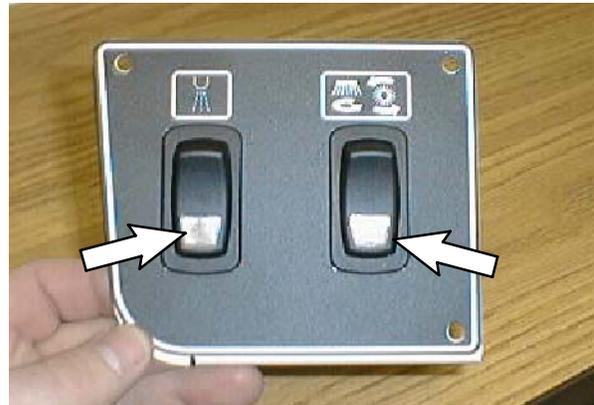
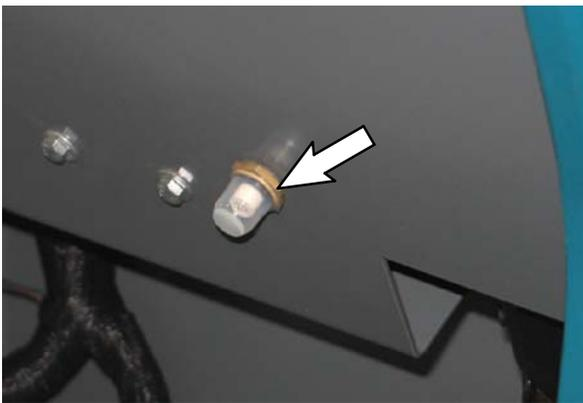
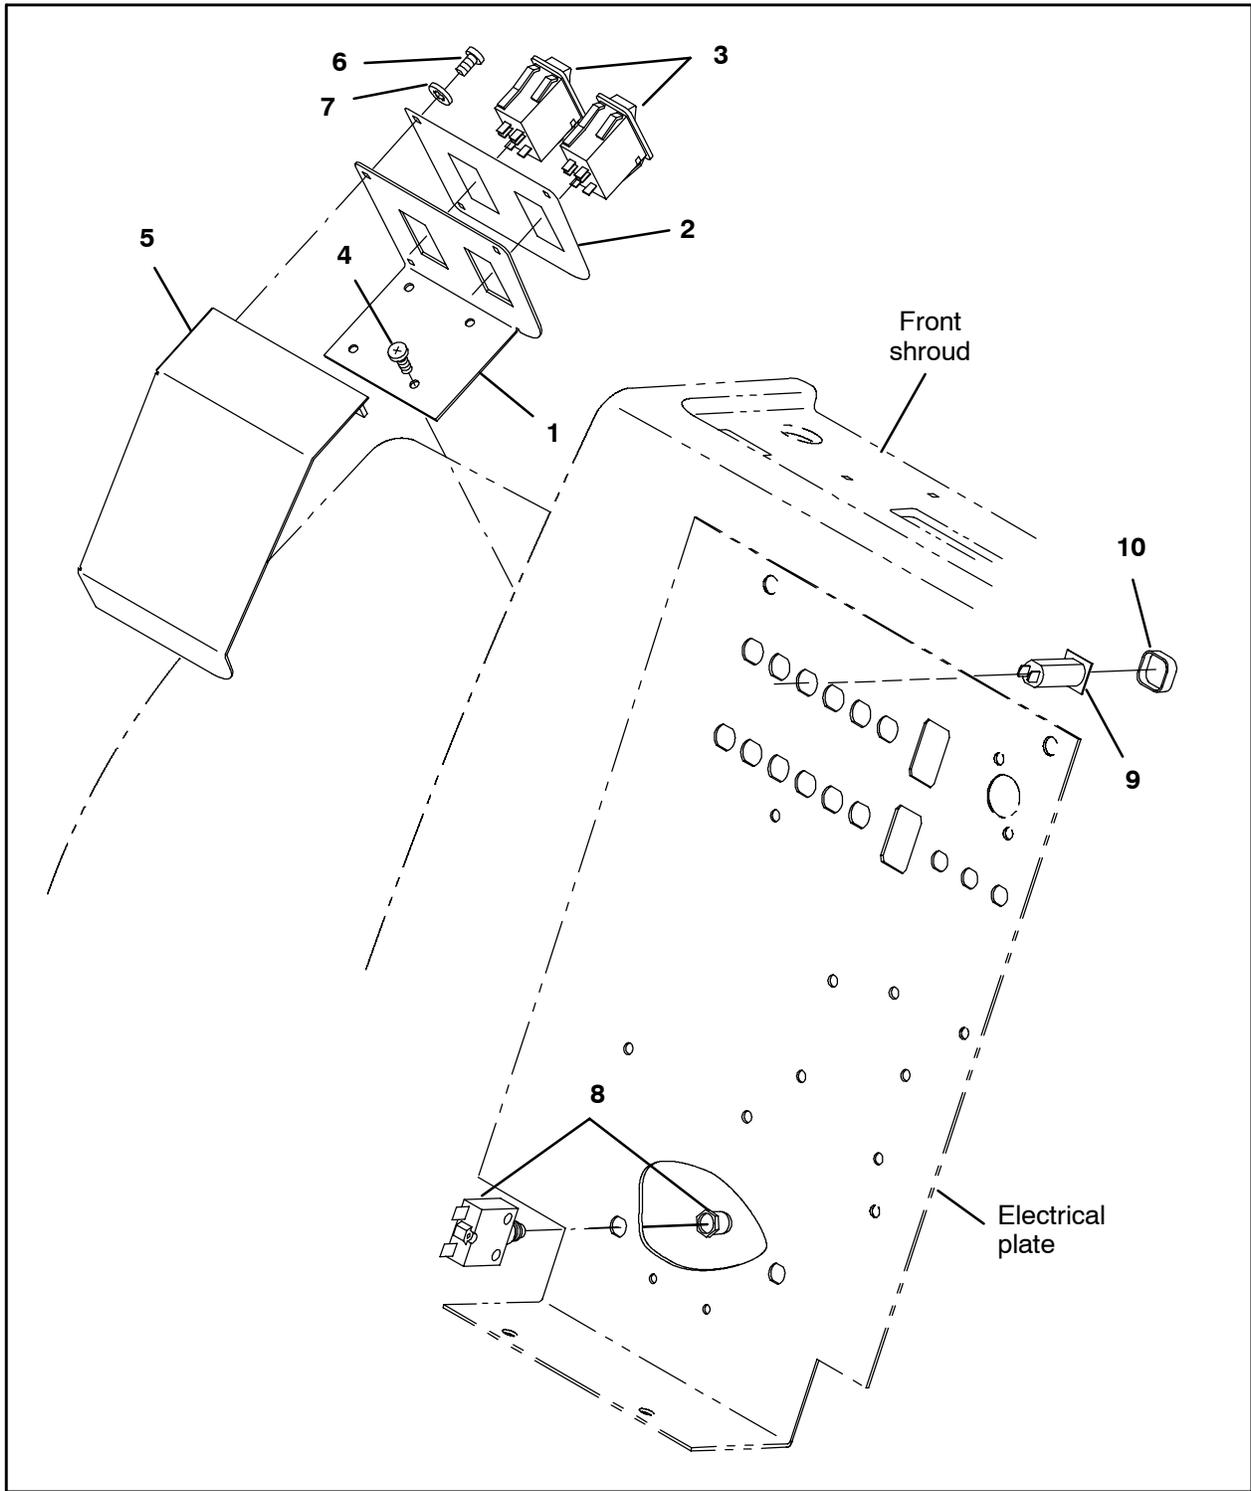

FIG. 6
FIG. 8
FIG. 13
6. Install the pre-sweep operation label (2) onto the switch panel (1). Refer to Fig. 5 and Fig. 13.
7. Install both rocker switches (3) into the switch panel (1). Be sure rocker switches (3) are positioned with the indicator light to the bottom as shown in Fig. 6 and Fig. 13.
8. Use four pan screws (4) to install the switch panel (1) onto the front shroud. Refer to Fig. 13.
- Use three pan screws (6) and three flat washers (7) to install the panel cover (5) onto the switch panel (1). Refer to Fig. 7 and Fig. 13.
- Remove the cover from the 25-Amp circuit breaker (8). Set the cover aside.
- Install the 25-Amp circuit breaker (8) onto the electrical plate. Refer to Fig. 8 and Fig. 13.
- Reinstall the cover onto the 25-Amp circuit breaker (8). Refer to Fig. 8 and Fig. 13.
- Install the 10-Amp circuit breaker (9) into the electrical plate. Refer to Fig. 9 and Fig. 13.
- Install the circuit breaker boot (10) onto the 10-Amp circuit breaker (9). Refer to Fig. 9 and Fig. 13.